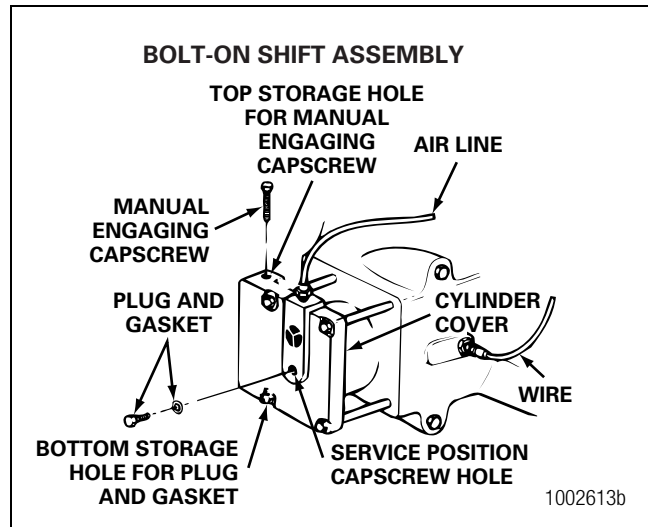

Figure 11.6
- A. Disconnect the air hose from the shift cylinder. Figure 11.6.
- B. Remove the manual engaging capscREW from the storage hole. The storage hole of threaded shift assemblies is located in the shift tower of the carrier, next to the cylinder. Figure 11.6.
10. Install the manual engaging capscrew into the storage hole. The storage hole of bolted on shift assemblies is located in the top side of the shift cylinder cover. Tighten the capscrew to 15-25 lb-ft (20-35 N•m). Figure 11.6.